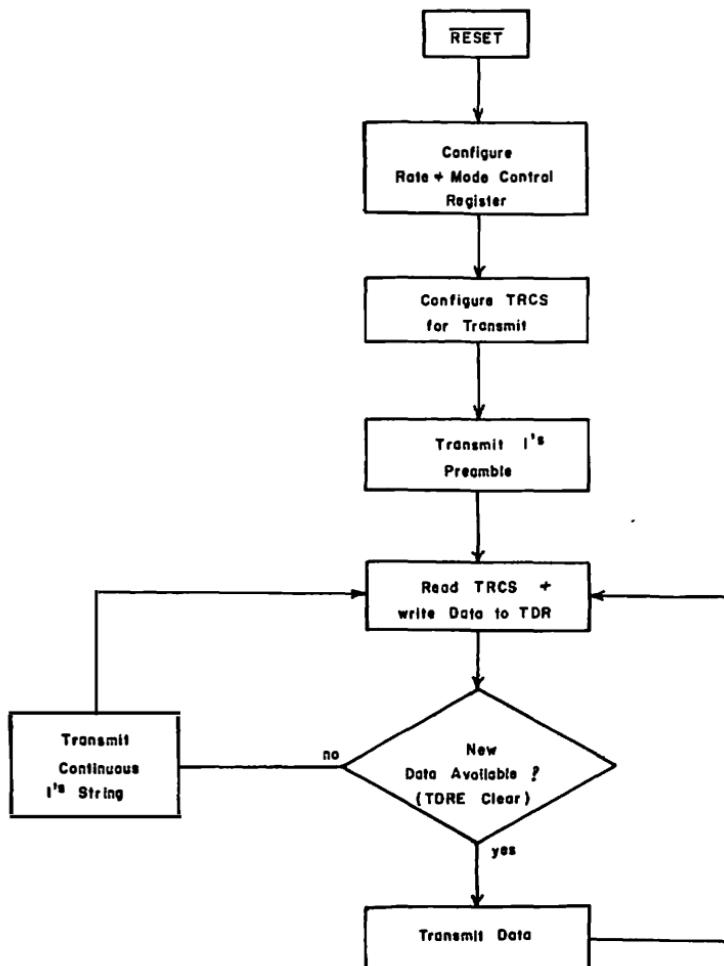

Fig. 7-7. Transmit operation flowchart.
The transmit operation is shown in Fig. 7-7. A brief explanation of each operational step will now be provided. Assuming the se-
19. Refer to Fig. 7-7.